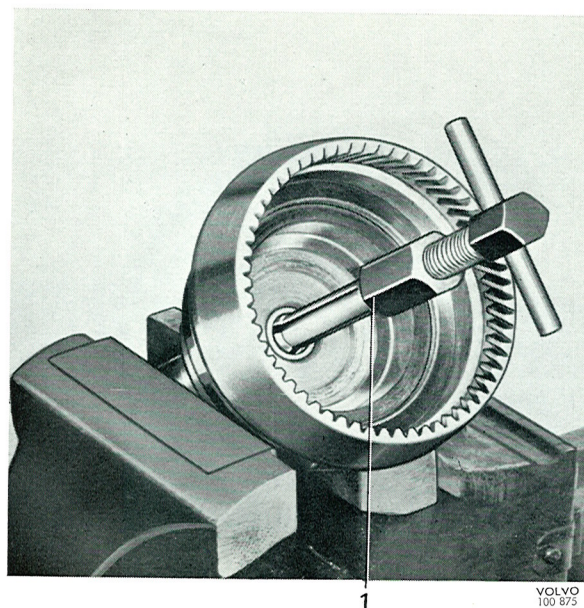

Fig. 4-59. Removing the bush, output shaft
4. Remove the circlip and the oil thrower, which hold the uni-directional clutch on the output shaft. Lift out the uni-directional clutch components. Remove the thrust washer. If necessary pull the bush on the output shaft out with puller SVO 2423, see Fig. 4-59.